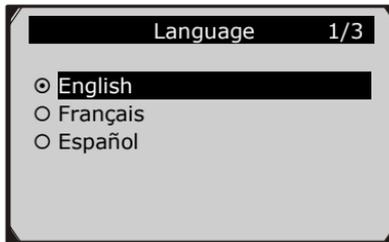

Figure 3.3
- 2) Use the **SCROLL** button to select the desired language and press the **ENTER** button to save your selection and return to previous screen. We provide three language options currently. (Figure 3.3)